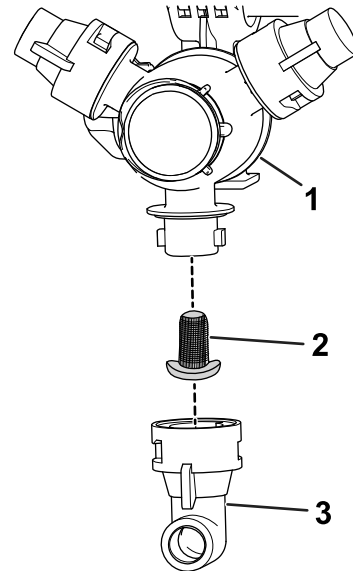

Figure 91
2. Remove the nozzle from the spray turret (Figure 91).
3. Remove the old nozzle filter (Figure 91).
4. Install the new nozzle filter (Figure 91).
5. Install the nozzle onto the spray turret (Figure 91).